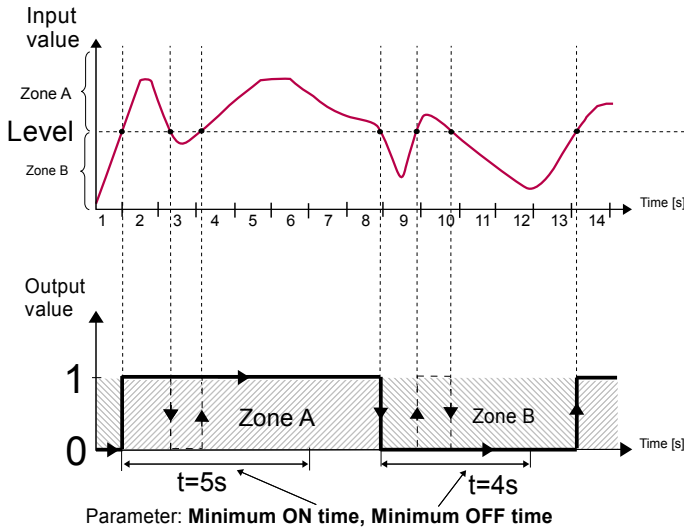

Fig. 7.69. Principle of relay output operation for sample timing settings: **Min. ON time**=1 sec., **Min. OFF time**=4 sec.
- **Minimum ON time** - the minimum duration of a high state (if the output switches to high state the low state will occur after the **Minimum ON time**),see Fig. 7.69
- **Minimum OFF time** - the minimum duration of a low state (if the output switches to low state the high state will occur after the **Minimum OFF time**),see Fig. 7.69